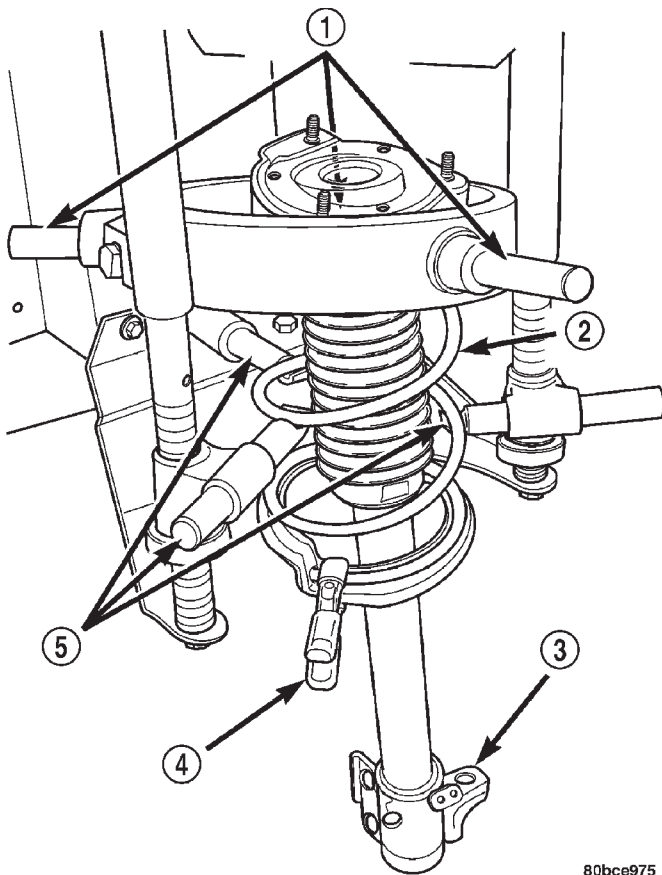

Fig. 17 Strut Assembly In Compressor
(1) If both struts are being serviced at the same time, mark the coil spring and strut assembly according to which side of the vehicle the strut was removed from, and which strut the coil spring was removed from.
(2) Position the strut assembly in the strut coil spring compressor following the manufacturers instructions. Set the lower, then upper hooks on the coil spring (Fig. 17). Position the strut clevis bracket straight inward toward the compressor. Place a clamp on the lower end of the coil spring, so the strut is held in place once the strut shaft nut is removed.
(6) Install the strut through the bottom of the coil spring until the lower spring seat contacts the lower end of the coil spring. Rotate the strut until the end of the coil spring fits against the step in the lower spring seat (Fig. 17). If done correctly, the clevis on the bottom of the strut should face toward the compressor.
(7) Install the clamp on the lower end of the coil spring and strut, so the strut is held in place with the coil spring.